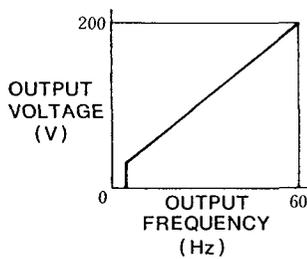

Figure 3. Example of V/f Pattern
- (1) Base drive circuit: Drives the transistors in the converter circuit.
- (2) Sine wave PWM control circuit: Calculates the pulse width every time a reference signal is received from the V/f control circuit, and outputs a PWM signal approximating a sine wave.
- (3) V/f selector circuit: Selects V/f pattern from 15 types of built-in voltage/frequency (V/f) patterns. (See Figure 3)